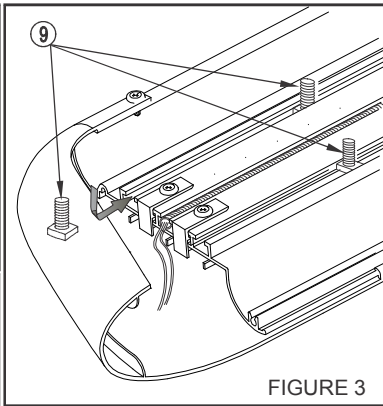
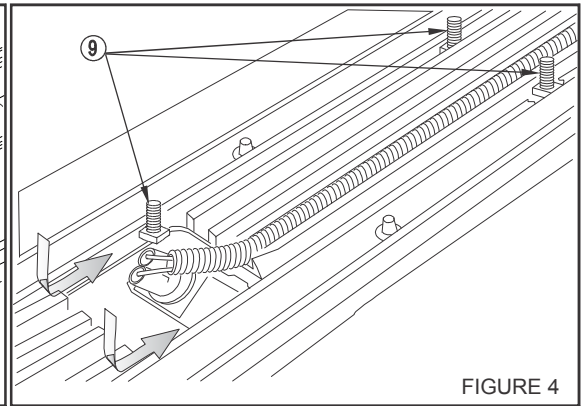

FIGURE 3
FIGURE 4
- STEP 4. Insert square head bolts as shown (4 per slot, 8 per board). SEE FIGURES 3 AND 4. NOTE: For lighted boards, run wiring harness prior to attaching board to brackets (refer to Step 4). Run longer wire harness on passenger side.
HINT: Molded Step Boards: For longevity, check rubber seals before installation. Rubber grommets around red and blue wires going into rear sockets, should be inserted and recessed about 1/4". NOTE: Remove bulbs and apply white grease into sockets and replace bulbs. Apply RTV Silicone where lights go into socket. Install lights and run wire loom as shown. SEE FIGURE 4. For Sure-Grip Running Boards, run wire loom down center as shown. SEE FIGURE 3.